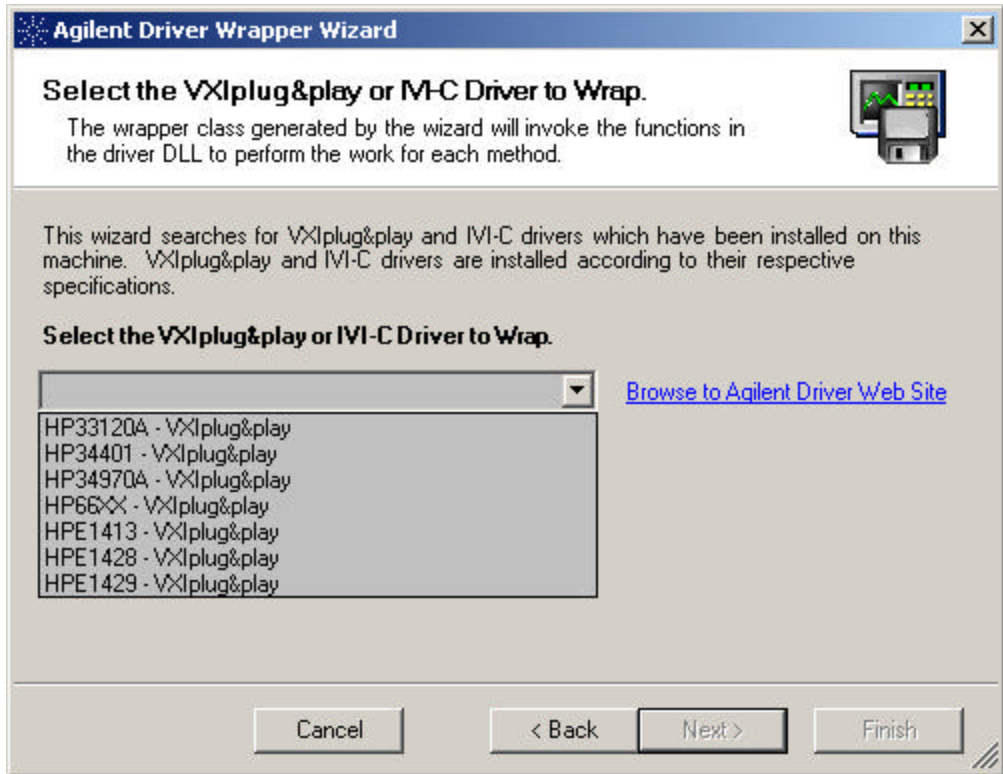

Figure 35 Selecting a *VXI plug&play* or *IVI-C* Driver to Wrap
- 2 Choose from a list of VXI*plug&play* or IVI-C drivers installed on your machine. You can also download additional drivers from the Web. See Figure 35.**